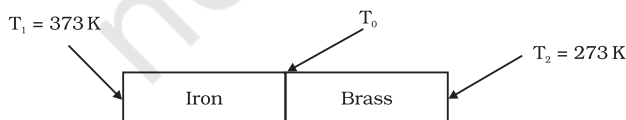

Fig 11.16
► **Example 11.7** An iron bar ($L_1 = 0.1$ m, $A_1 = 0.02$ m², $K_1 = 79$ W m⁻¹ K⁻¹) and a brass bar ($L_2 = 0.1$ m, $A_2 = 0.02$ m², $K_2 = 109$ W m⁻¹ K⁻¹) are soldered end to end as shown in Fig. 11.16. The free ends of the iron bar and brass bar are maintained at 373 K and 273 K respectively. Obtain expressions for and hence compute (i) the temperature of the junction of the two bars, (ii) the equivalent thermal conductivity of the compound bar, and (iii) the heat current through the compound bar.